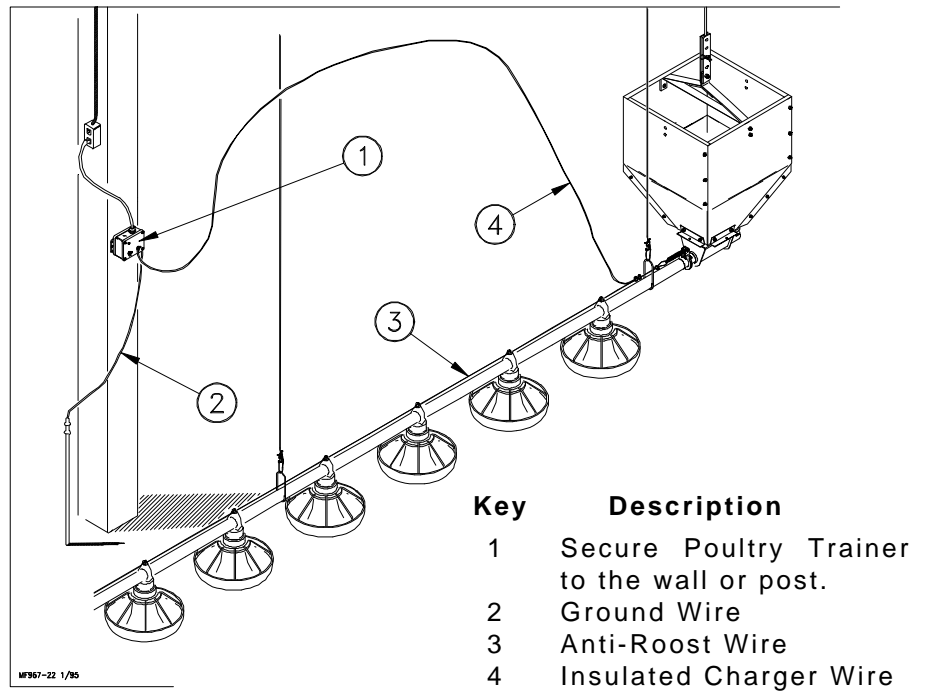

Figure 58. Poultry Trainer Installation
11. Install the Poultry Trainer or Line Charger, as shown in Figure 58 or 59.
The Poultry Trainer is used to power all Anti-Roost lines in a house. See Figure 58.